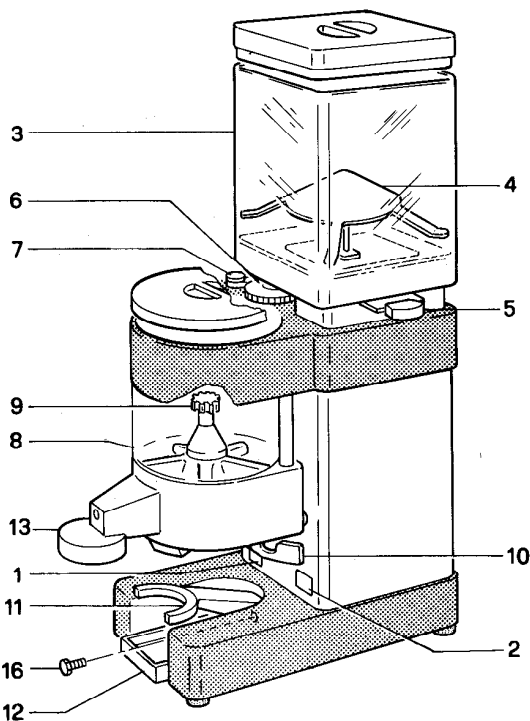

Fig.6
- By keeping the ferrule-stop button 7 pressed (Fig. 6), turn ferrule 6 in a clockwise direction (Fig. 6) until the grinders click; turn immediately ferrule 6 in a counterclockwise direction by 15-20 marks.
- By keeping ferrule-stop button 7 pressed (Fig. 6), turn ferrule 6 in a counterclockwise direction until the grinders click; turn immediately ferrule 6 in a clockwise direction by 30-40 marks.
### 7.1. Controls Fig. 6
### 7.2 Grinding adjustment Fig. 6